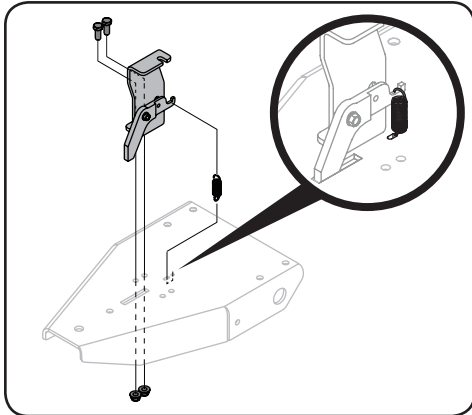

Figure 2-7
1. Attach lever lock assembly (689-00691) to blade tongue (789-00471) with 2 screws (710-3008) and 2 flange lock nuts (712-04063) found in hardware pack 5 (689-00688). See Figure 2-7.
2. Fasten extension spring (732-04345) from hardware pack 5 (689-00688) to arm of lever lock assembly (689-00691) and blade tongue (789-00471). See Figure 2-7.